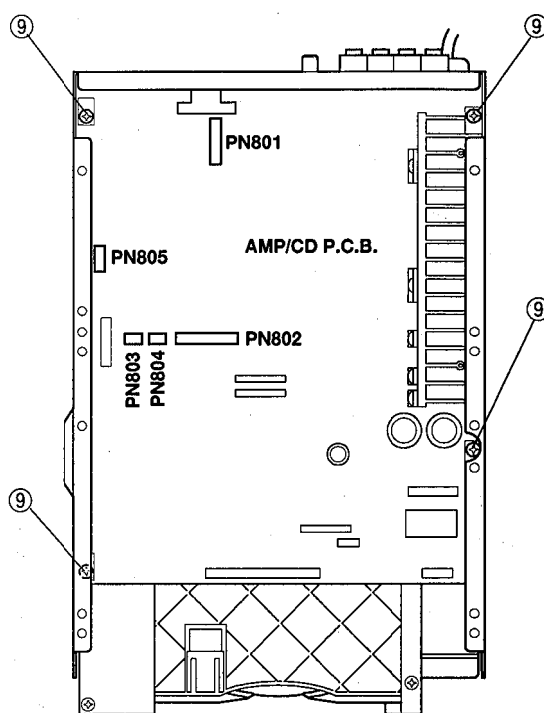

Fig. 4
- Disconnect the Flat Connecting Cables (PN801, PN802) and the Connectors (PN803, PN804, PN805) in Fig. 4.
- Remove 4 screws (⑨) in Fig. 4.